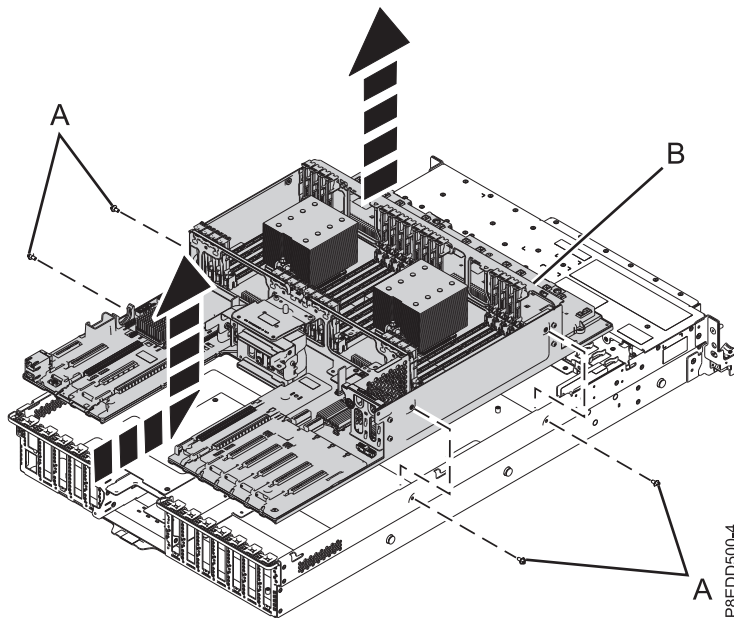

Figure 119. Removing the system backplane
- b. Using a Phillips screwdriver, unscrew and remove four screws (A) from the sides of the system chassis as shown in Figure 119 on page 121.
- c. Grasp the system backplane by the top guide rail (B). Slide it forward in the direction that is shown, then lift it up to remove it from the chassis. Place the system backplane on an ESD surface. See Figure 119 on page 121.